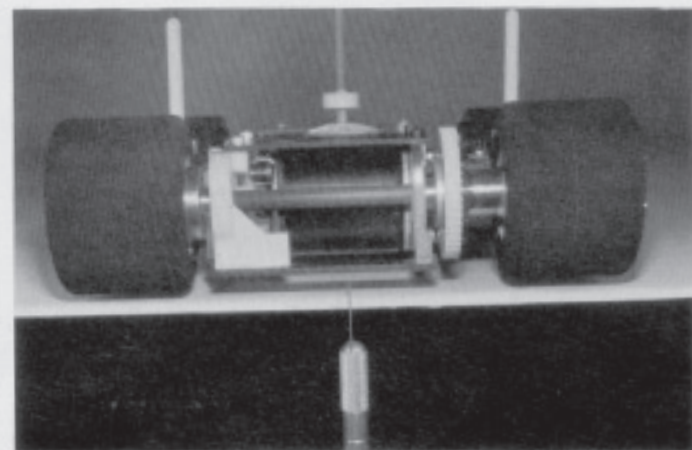

Fig. 87A
□ **Fig. 87A & 87B** Now its time to set the car "tweak". After EVERYTHING ELSE is installed on the car, including batteries, motor, speed control, and all the radio equipment, we can set the "tweak".